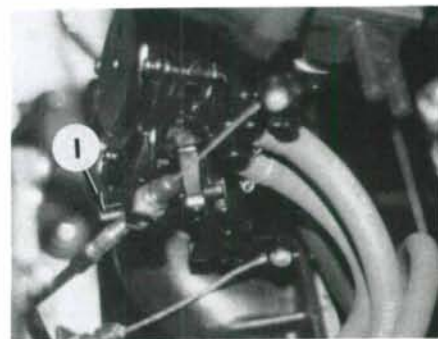

Fig. JS3-4—View identifies location of idle speed screw (I).
Initial setting of low speed mixture needle (L—Fig. JS3-3) is one turn out from a lightly seated position on all models. Initial setting of high speed mixture needle (H) is 5/8 turn out from a lightly seated position on all models. Final carburetor adjustments must be made with engine at normal operating temperature and running. Clockwise rotation of either needle leans the mixture. Adjust low speed mixture needle (L) until smooth acceleration from the idle position is noted. After adjusting low speed mixture needle, adjust idle speed screw (I—Fig. JS3-4) until engine idle speed is approximately 1150-1350 rpm with throttle lever completely released. To adjust high speed fuel:air mixture, the engine spark plugs must be removed and insulator tip color noted.